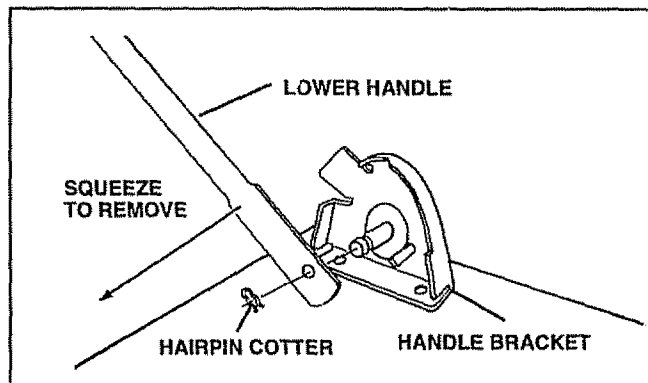

FIG. 15
- Disconnect the lower handle from the handle brackets (See Fig. 15).